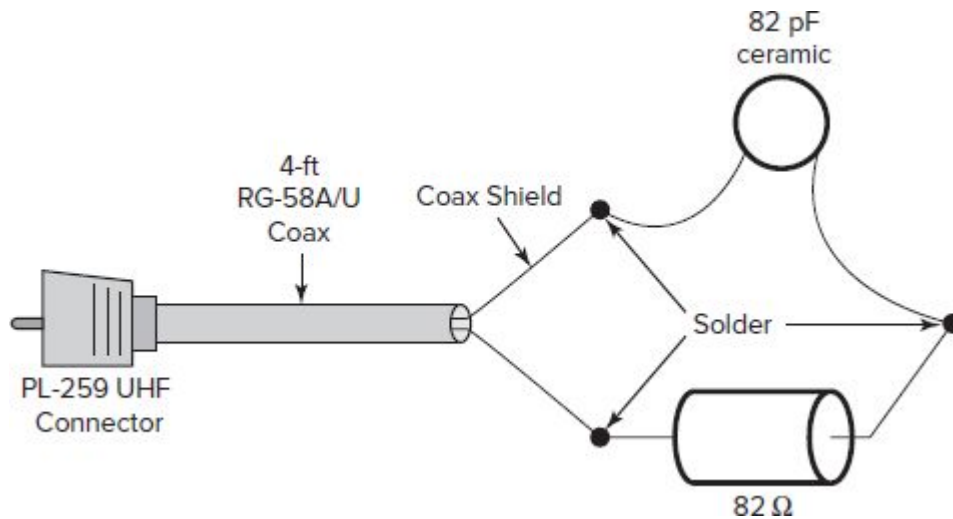

Fig. 13-2 Complex load on a coax cable.
1. Construct the complex load by soldering the 82- Ω resistor and 82-pF capacitor in series to the coax cable as shown in Fig. 13-2.